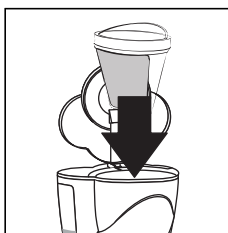

fig. 4
- Position the permanent filter into the filter holder into the machine (fig. 4).